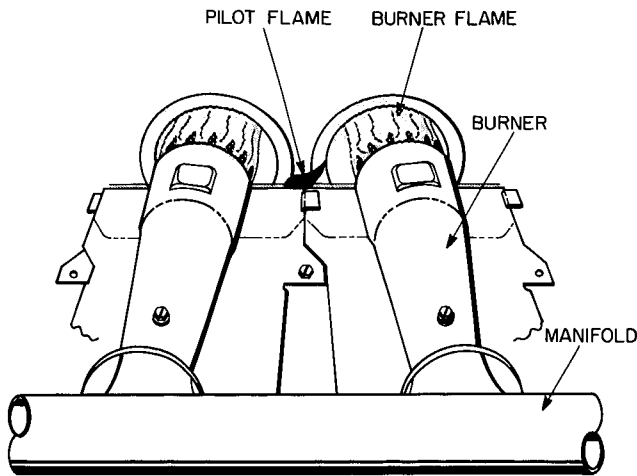

Fig. 7 — Proper Pilot and Burner Flames
2. Main burners should light 25 to 75 seconds after pilot. If main burners do not light within prescribed time period, adjust pilot flame, allow pilot to cool for 5 minutes, and repeat time check (Fig. 7).
- b. Turn adjusting screw either counterclockwise (out) to decrease input rate or clockwise to increase rate. When adjusting input rate, do NOT change manifold pressure more than 0.3 in. wg. Make any major adjustments by changing main burner orifices (Fig. 7).
3. Look through sight glass in burner enclosure and check burner and pilot flame. The main burner flame should be clear blue, almost transparent. The pilot flame should be well defined. See Fig 7.